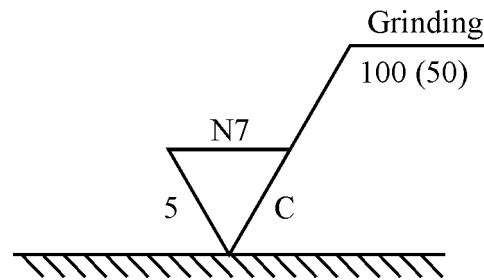

Fig. No. 1
- (f) State the meaning of symbols shown in the Fig. No. 1.